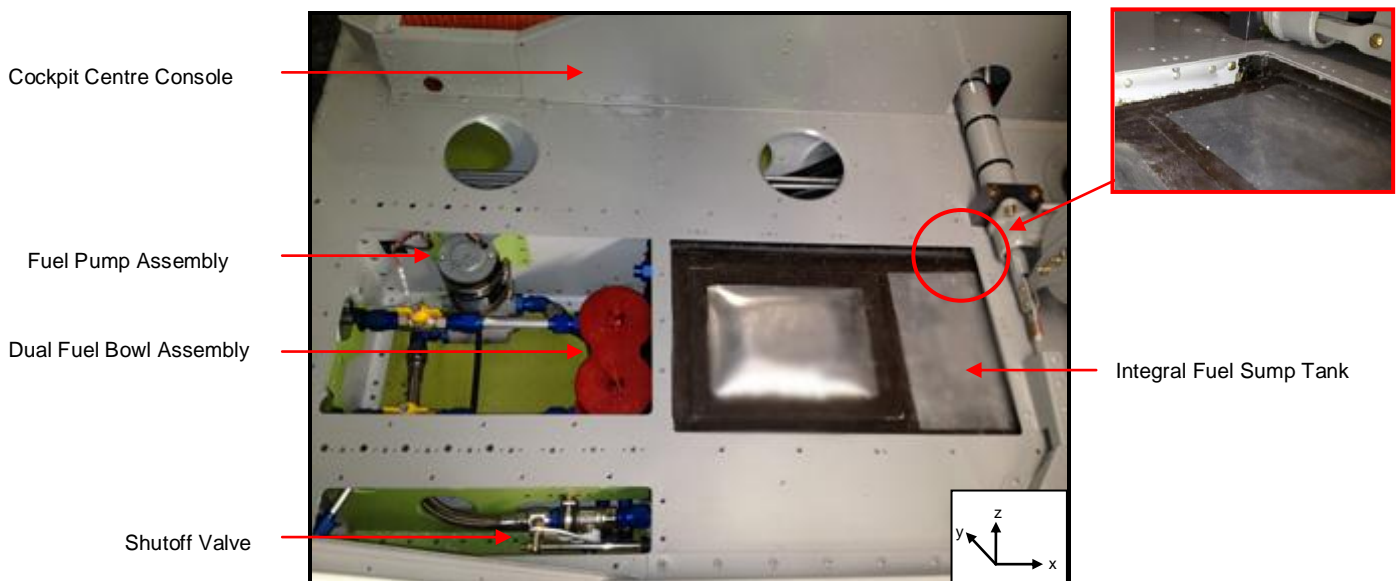
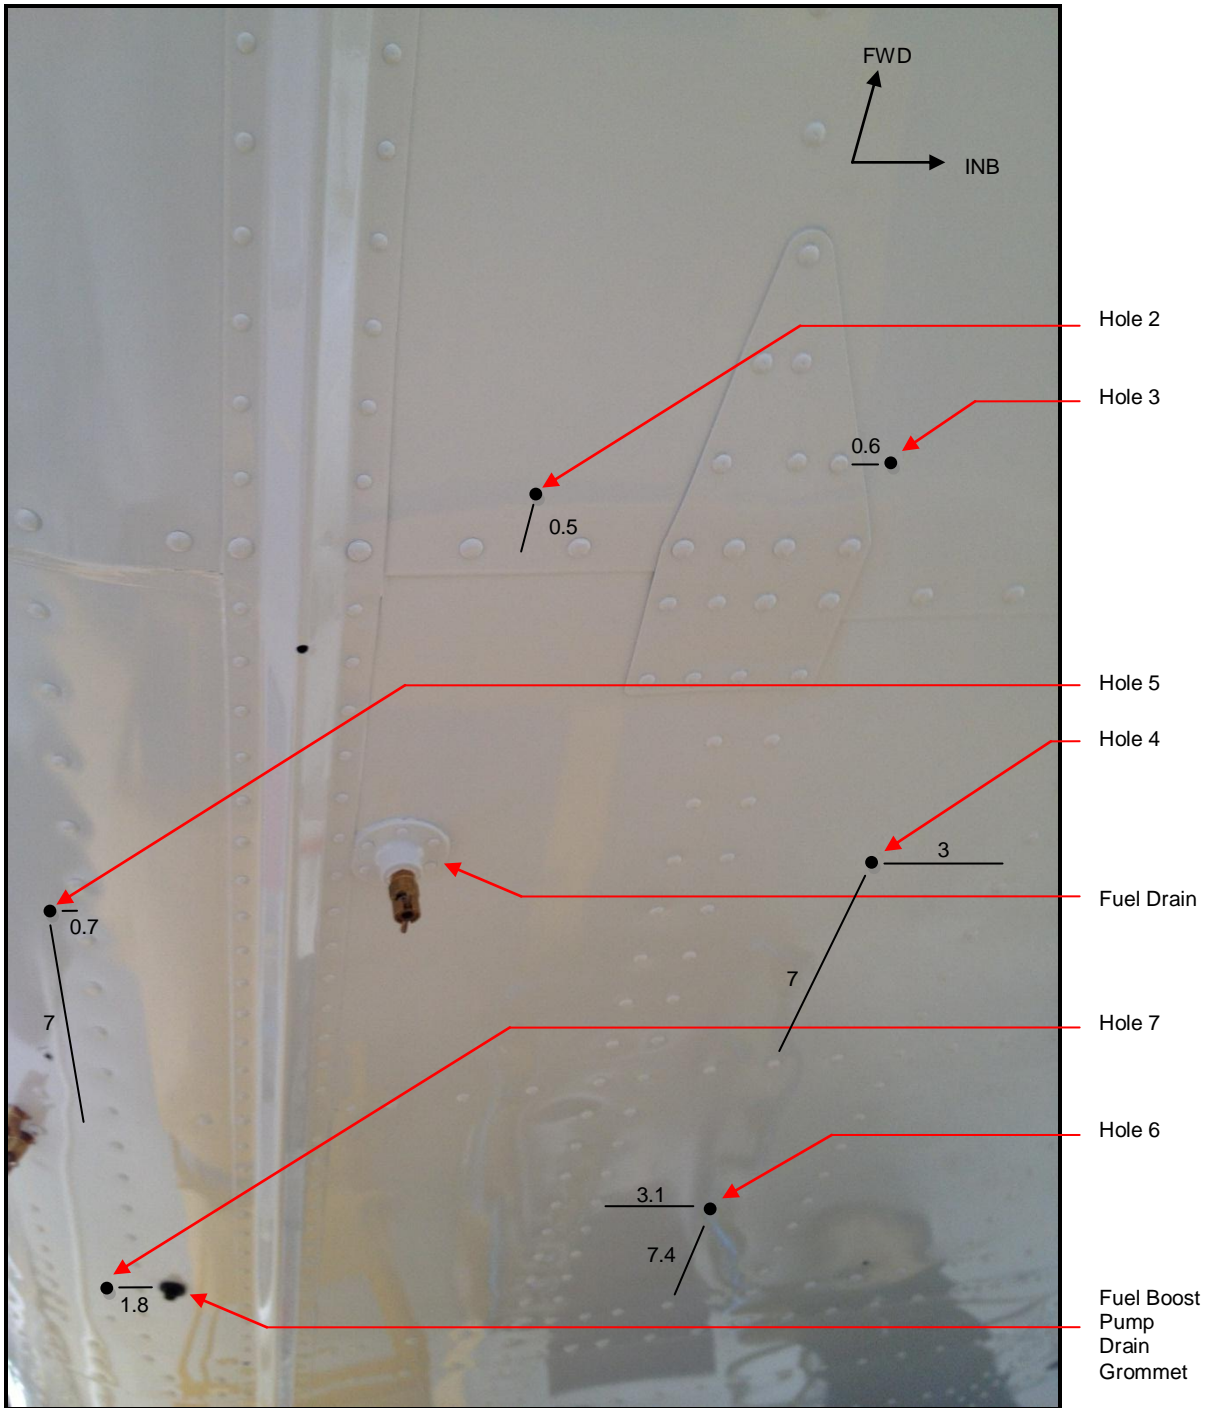
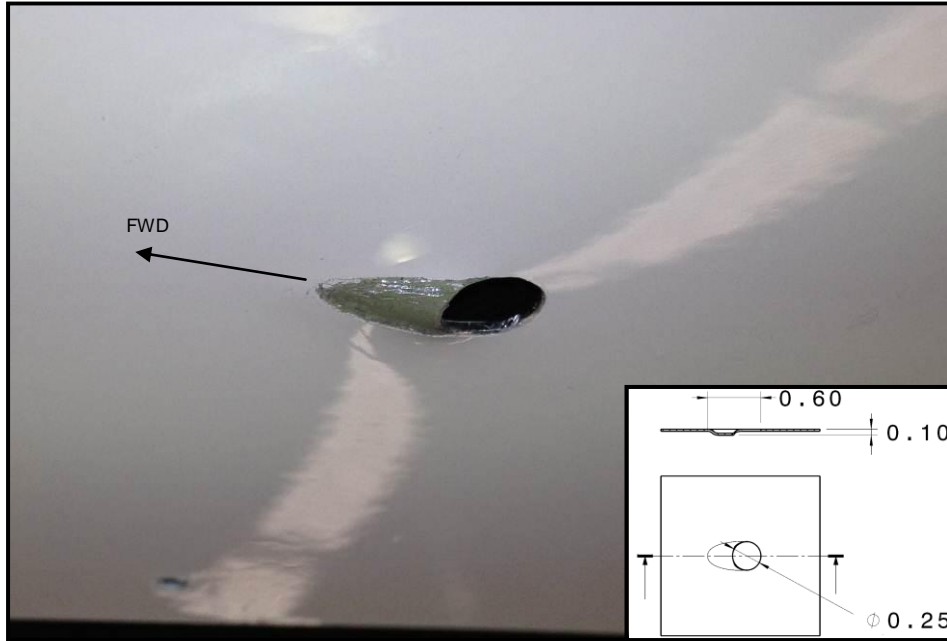

Figure 1
Figure 10: Hole Locations Viewed from Bottom of Belly Skin (Dimensions in inches)
Figure 11: Fluted Hole (Dimensions in inches)
The GA8/GA8-TC 320 aircraft Mk II fuel system features an integral sump tank located in the floor structure forward of the co-pilot seat. Between the aircraft floor skin and the top of the collector tank a compartment exists which is currently not ventilated and drained as required by FAR 23.967(b), See Figure 1. The drainage modification of the compartments adjacent to the integral sump described in earlier issues of this Service Bulletin was deemed unsatisfactory and resulted in five additional drainage holes being implemented as part of this issue, as required by FAR 23.967(b), Figure 10.
8. Refer to Figure 10.
15. To prevent moisture from entering the new drain holes (Figure 10), press 'half-moon flute' into surface of skin, Figure 11 (approximate dimensions shown).
Measurements referred in Figure 11 are approximate and shall be used as a reference only.